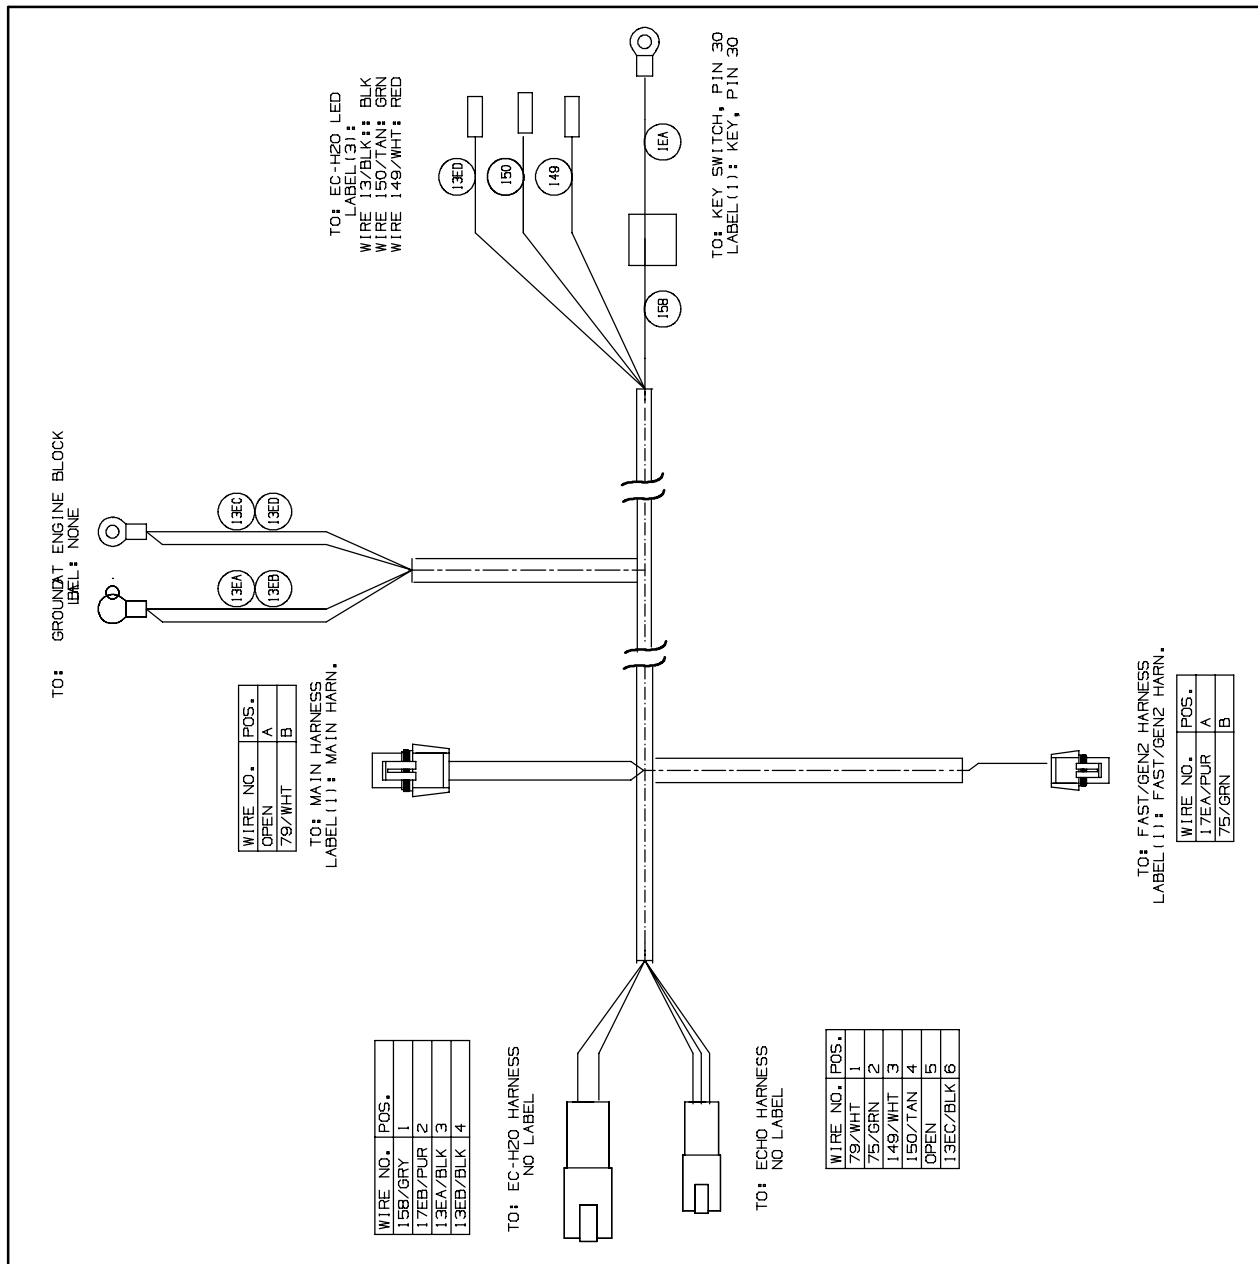

FIG. 6
23. Route the *ec-H20* harness ground lead to the engine ground and connect the ground lead to the engine ground. Refer to Fig. 6.
26. Slide the *ec-H20* harness ignition switch lead through the bottom of the boot and connect the ignition lead to PIN 30 on the ignition switch. Refer to Fig. 6.
28. Connect the *ec-H20* harness to the LED light. Refer to Fig. 6.
36. Connect the *ec-H20* harness to the *ec-H20* assembly. Refer to Fig. 6.